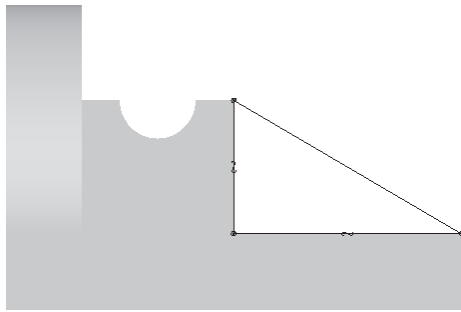

Figure 5-86 Sketch and constraints for the last feature
1. Draw the section sketch using various sketcher tools, as shown in Figure 5-86. The sketch is dimensioned automatically and some weak dimensions are assigned to it. You can add the required constraints to align the lines and points in the sketch with other features, as shown in Figure 5-86. In the figure, the constraint symbol displayed on the line indicates that the edges of the adjacent features are used to close the section.